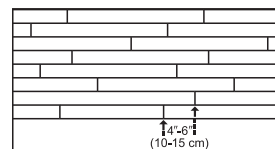

Figure 4
- Be attentive to staggering the ends of the boards at least 4-6 in. (10-15 cm) when possible, in adjacent rows (Figure 4). This method will help ensure a more favorable overall appearance of the floor.